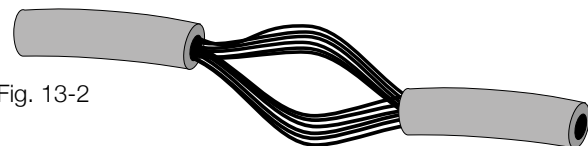

Fig. 13-2
- 1) First locate the proper wire where the poke and weave method is to be installed. Strip 3/4" to 1" of insulation from the wire in the vehicle to be installed. Spread the wire strands apart as shown. See Fig. 13-2